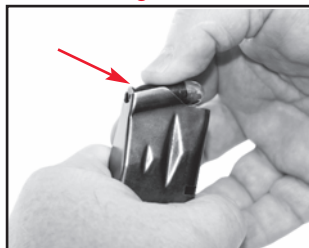

Figure 12
6. Push the correct number of cartridges of the correct type and caliber, one at a time, into the magazine, sliding the cartridge under the magazine feed lips until the cartridge head is against the rear wall of the magazine. See Figure 12.